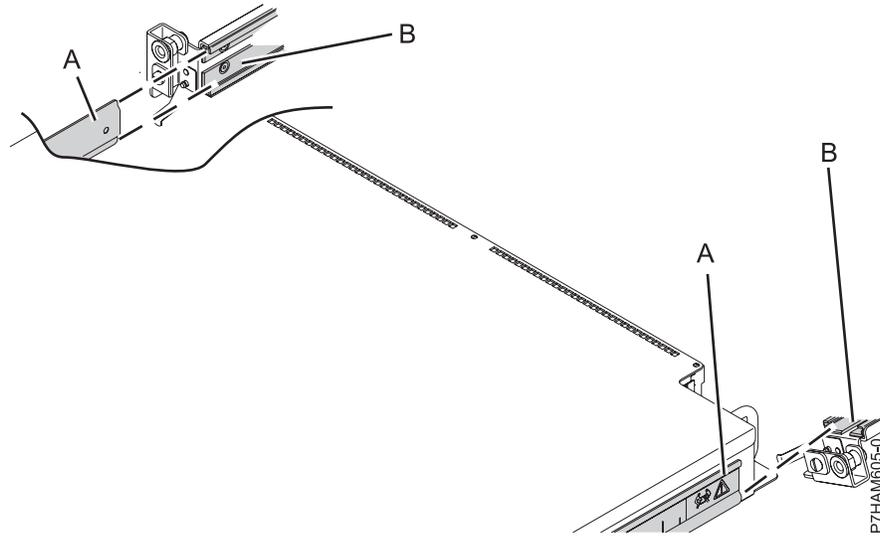

Figure 10. Reviewing the enclosure attachment to the rails
- a. Before attempting to mount the PCIe storage enclosure to the rails, review Figure 10 to observe how the chassis bracket guide (A) on the side of the enclosure fits and slides into the rail sheath (B) that matches its shape.
**Note:** In Figure 10, the right rail (B) is portrayed at an angle to show the location of the rail sheath. The actual rail is mounted in an upright position in the rack.